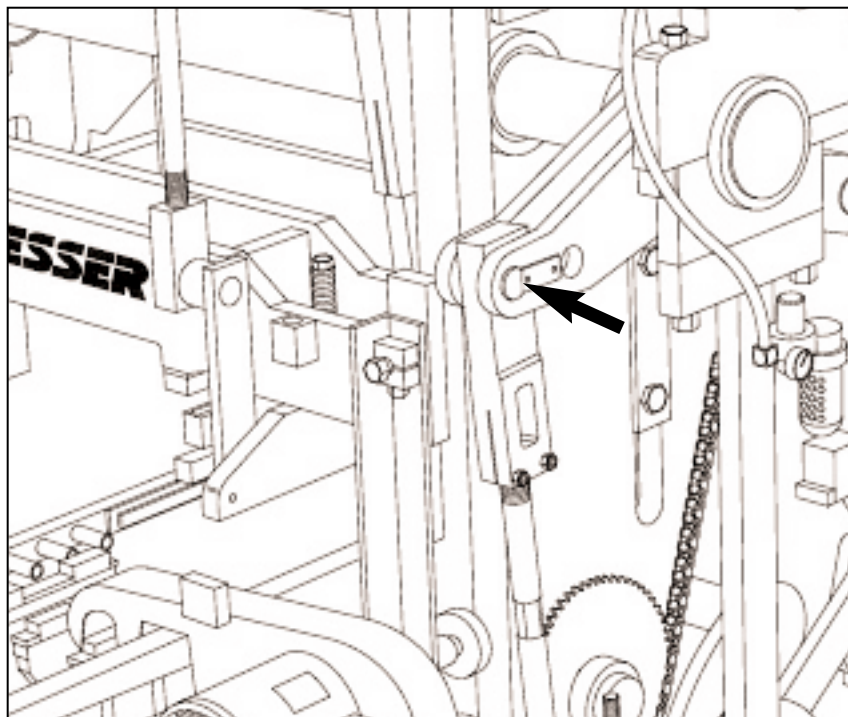

Figure 4.60 PALLET RECEIVER SHAFT POSITION.
4.4.5 The following items should be positioned as shown on figures 4.60 and 4.61:
- a. Pallet receiver shaft - position pins in outside holes (long stroke)(see figure 4.60).